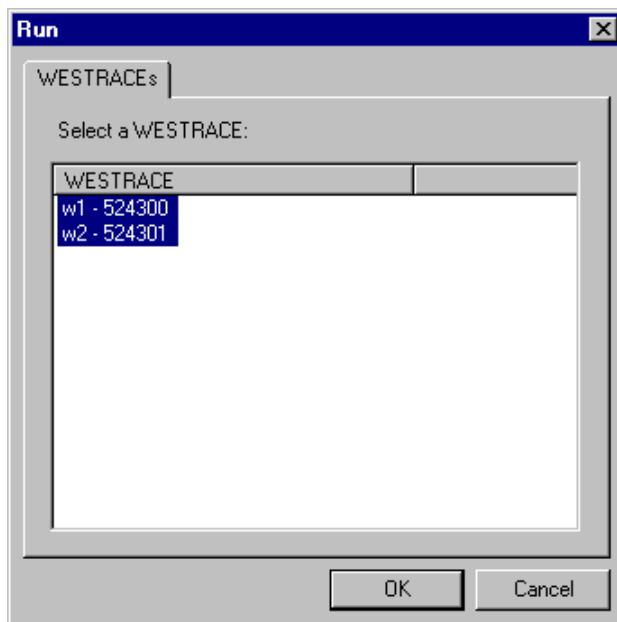

Figure 4.40 Run dialog box
- a) clicking the Run button to invoke a dialog box similar to figure 4.40;